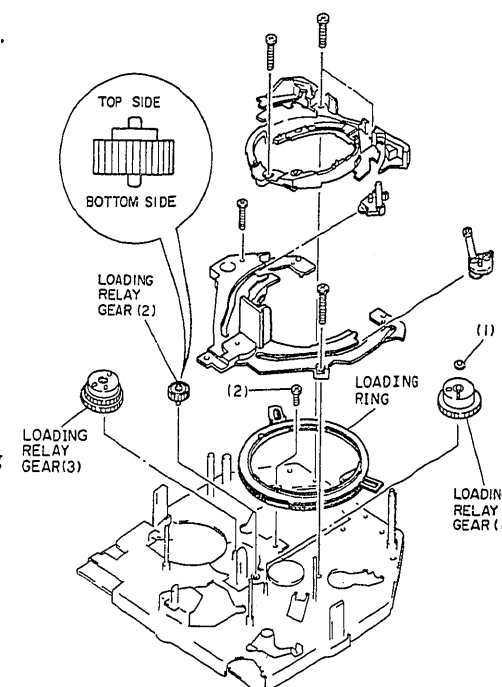

Fig. 2-17
## 2-19. Loading Relay gears (1)(2) (Fig. 2-17)
- 1) Remove the loading relay gear (2) from the chassis.
- 2) Remove washer (1) holding the loading gear (1).
- 3) Remove the loading relay gear (1) from the chassis.
## 2-20. Loading ring, loading relay gear (3) (Fig. 2-17)
- 1) Remove screw (2) holding the loading ring.
- 3) Remove the loading relay gear (3) from the chassis.